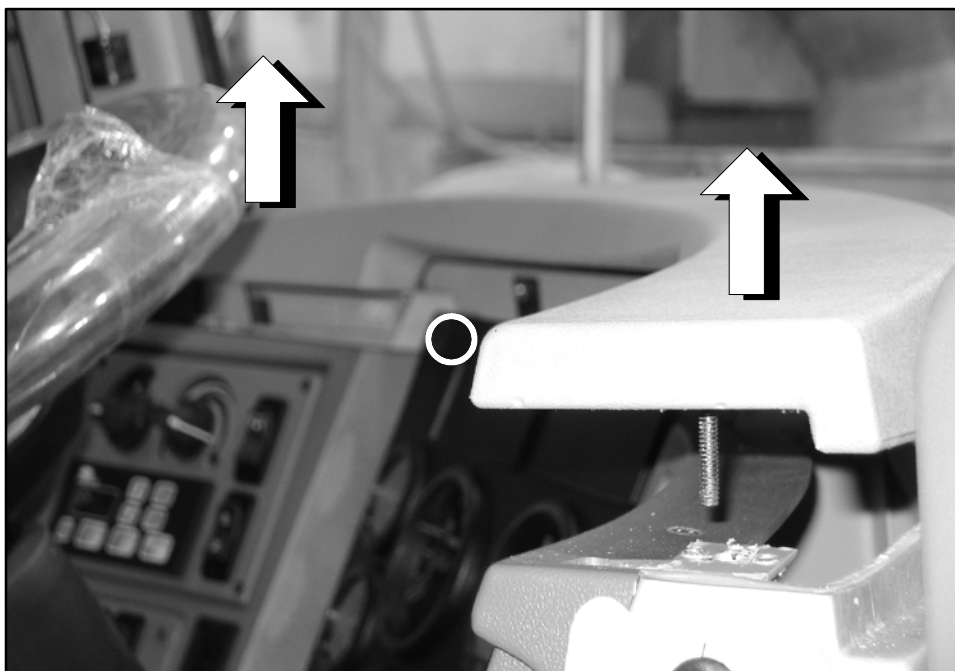

Figure 8.
26. Grab the dash foam hood assembly on both ends. Lift straight up to remove (refer to Figure 8). Place aside to be re-installed at a later step in this procedure.
27. Remove and retain the screws from the LH and RH top corners of the instrument panel (refer to Figure 8). Grab the instrument panel and lift straight up to remove from the slot. Carefully lean to rest the instrument panel against the steering column.
29. Orient the instrument panel in the slot and carefully press down to install. Using the existing screws, secure the instrument panel to the dash. Align and push straight down on both ends, to re-install the dash foam hood assembly (refer to Figure 8).